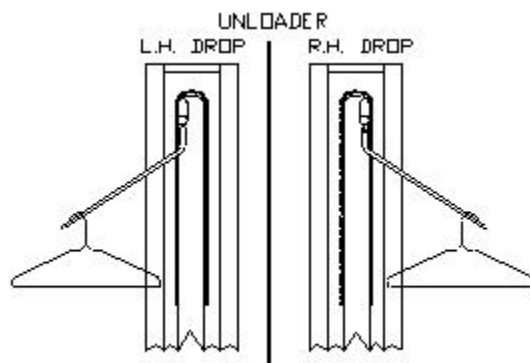

Figure 5
- Carefully raise the unloader to a vertical position, then replace on the machine and tighten the three (3) bolts as indicated in Figure 2. Refer to Figure 5 for left or right hand positioning of the unloader. To change the unloader orientation, refer to **“Changing Unloader Direction”** later in the installation instructions.
5. Remount unloading rail plate onto automatic unloader. The rail should now be on the opposite side (Figure 5).